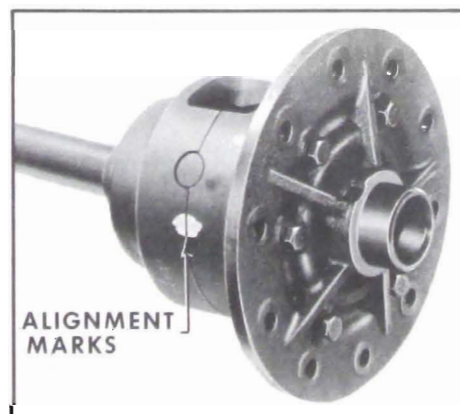

Figure 6-38—Alignment Marks
4. Mark flange half of case and cover half with a center punch or paint to provide alignment for re-assembly. See Figure 6-38.